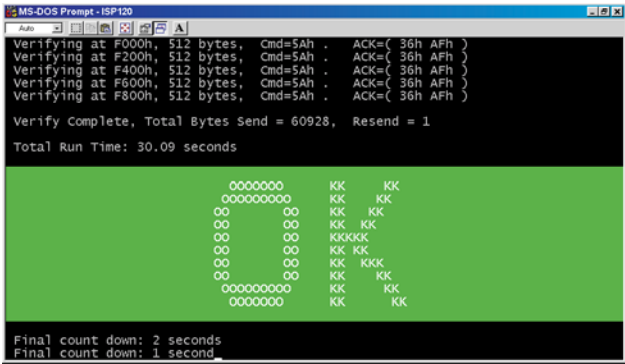

Fig. 11
When finished, Bring up Fig. 11=>12 on the screen of Monitor (A).